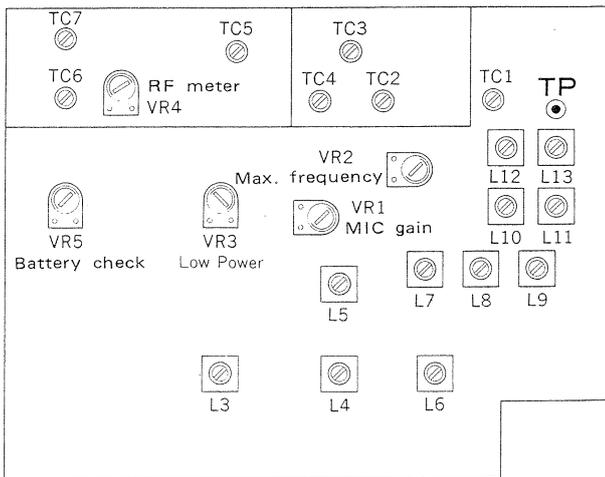
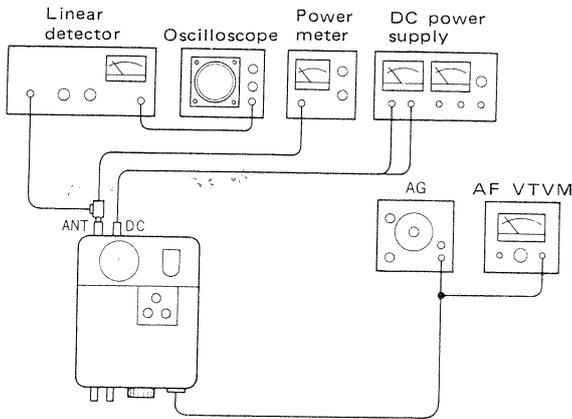

Fig. 13 TX Unit (X56-1180-00)
Fig. 15 Adjustment of Modulation
- (1) Connect test equipments as Fig. 15 (Refer to Fig. 13 concerning adjusting points.)
2. Adjust VR5 in TX unit (Fig. 13) to show the meter reading as Fig. 17.